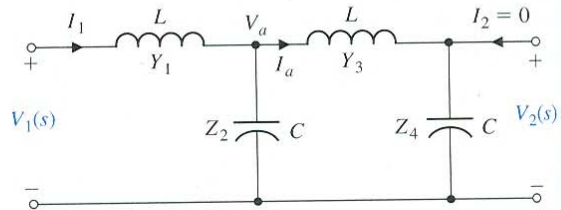

**FIGURE P2.17** Mechanical system.
**P2.17** A mechanical system is shown in Fig. P2.17, which is subjected to a known displacement  $x_3(t)$  with respect to the reference. (a) Determine the two independent equations of motion. (b) Obtain the equations of motion in terms of the Laplace transform, assuming that the initial conditions are zero. (c) Sketch a signal-flow graph representing the system of equations. (d) Obtain the relationship between  $X_1(s)$  and  $X_3(s)$ ,  $T_{13}(s)$ , by using Mason's signal-flow gain formula. Compare the work necessary to obtain  $T_{13}(s)$  by matrix methods to that using Mason's signal-flow gain formula.